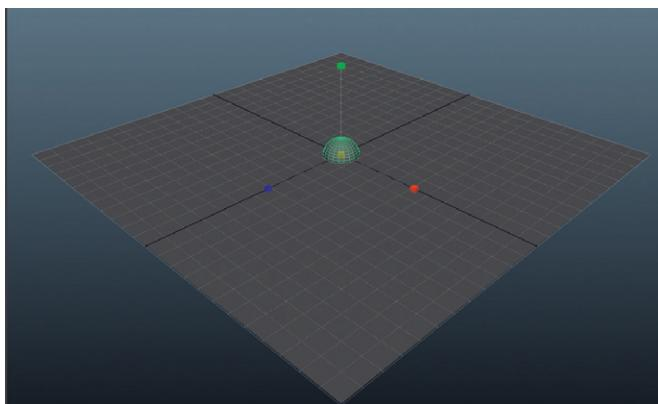

FIG. 9.1 Sphere and plane.
Step 1: Create a new scene and in this scene create a polygon plane for the ground and a polygon sphere for the ball (Fig. 9.1).